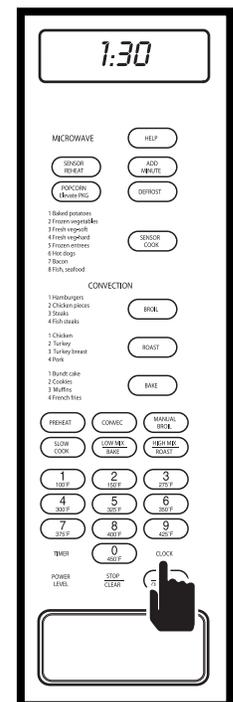

Figure 3-24.
3. After the correct time of day is entered, press CLOCK key again to exit Clock Set Mode (See Figure 3-24).